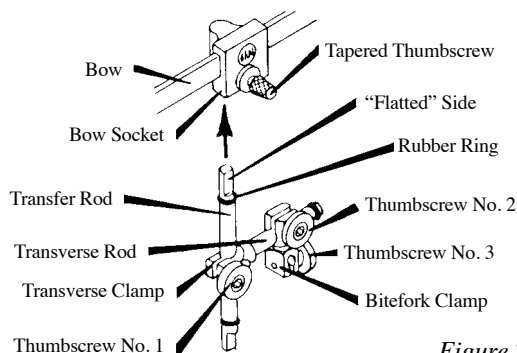

Figure 7
3. Insert the Transfer Rod into the Bow Socket, Figure 7. Align the "flatted" side toward the front and insert to the Rubber Ring "stop." Finger tighten the tapered Thumbscrew against the "flatted" side of the Transfer Rod.